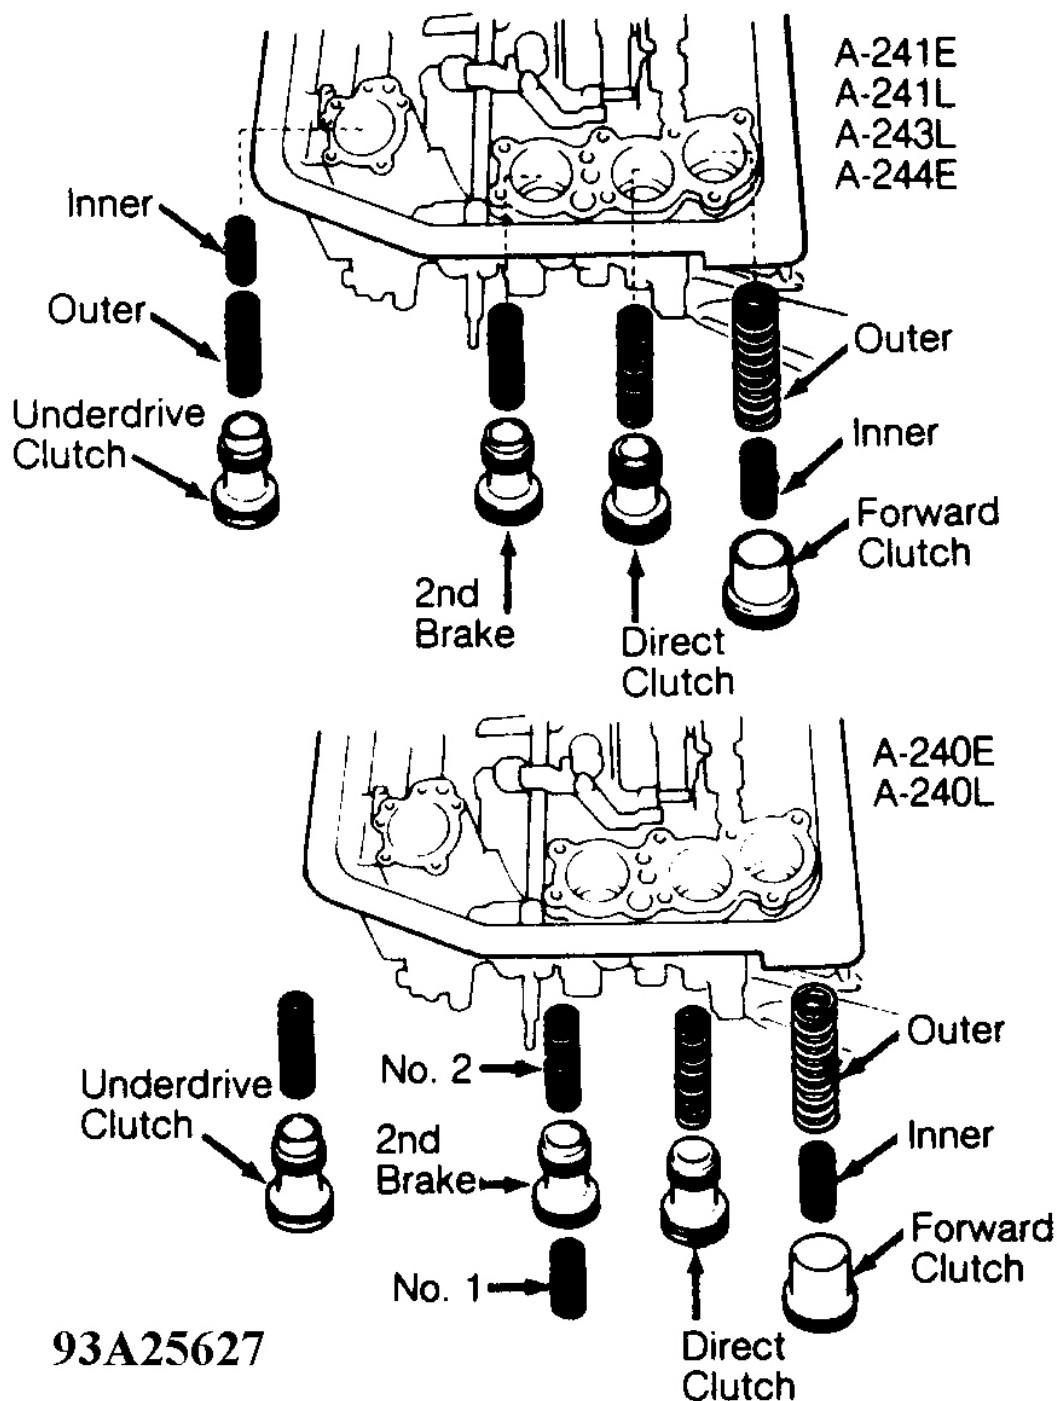

Fig. 54: Identifying Accumulator Pistons & Springs
31. See **ACCUMULATOR SPRING SPECIFICATIONS**. Install pistons and springs in transaxle case. See **Fig. 54**. Install accumulator cover and NEW gasket. Tighten bolts to 89 INCH lbs. (10 N.m).
(1) For accumulator spring locations, see Fig. 54 .